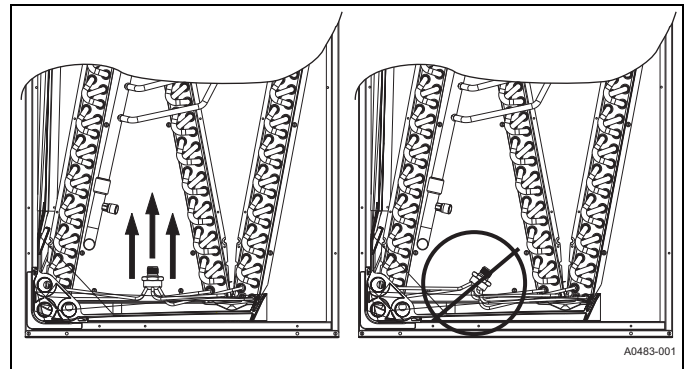

FIGURE 2: Recommended Distributor Adjustment
5. Slide the nut removed in step 3 over the supplied liquid line. Place supplied Teflon washer from TXV kit in place on TXV, and install liquid line to the top of the thermal expansion valve. Adjust assembly so liquid line aligns with hole in access panel. See Figure 2. Hand tighten the liquid line, and apply an additional 1/4 turn to seal.